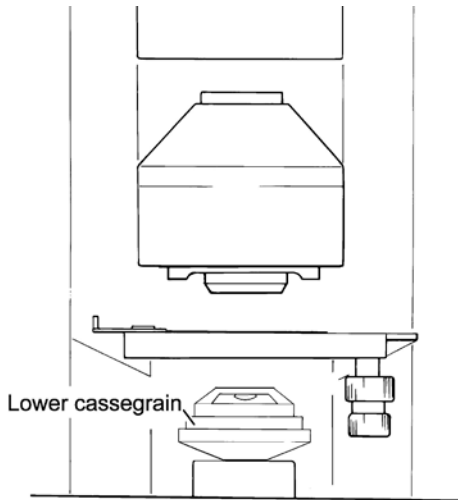

Figure 22 The Lower Cassegrain
1. Release the locking lever, at the back of the lower cassegrain assembly on the right (Figure 22).